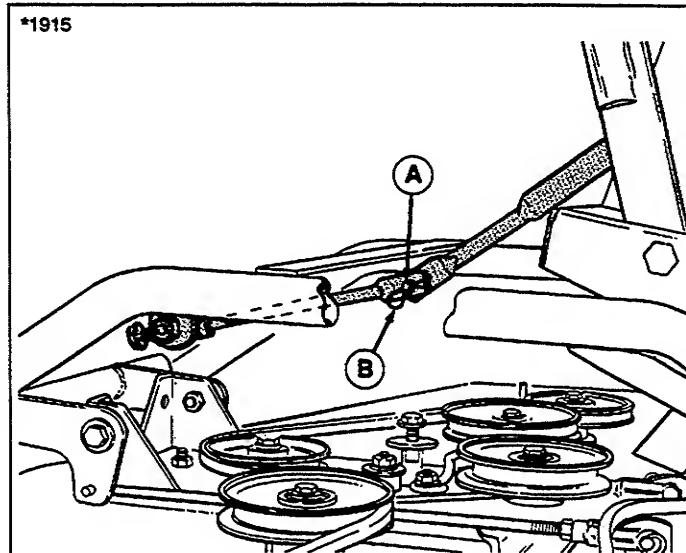

Figure 7. Lift Arm Halves
See figure 7.
6. See figure 7. Disconnect the top and bottom halves of the mower lift arm. Install spring clip onto weld stud.